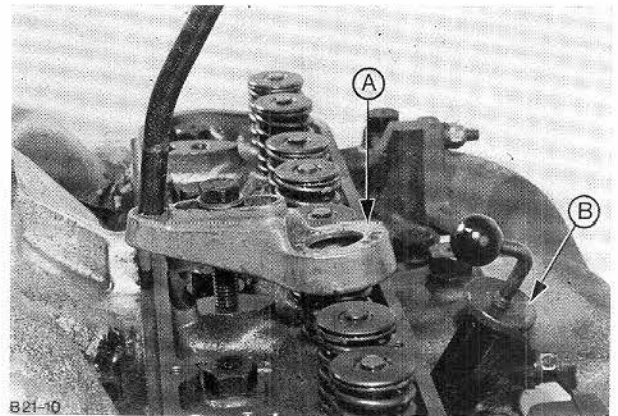

Fig. 89. Removing valve springs using Special Tool.
4. Screw valve retainer Tool G2-6513-B, Fig. 89, into spark plug hole, position it against valve and lock. Fit valve spring compressor G2-6513-A, Fig. 89 or 21-2104 plus adaptors 21-024-02 and P-6118-3A on cylinder head.